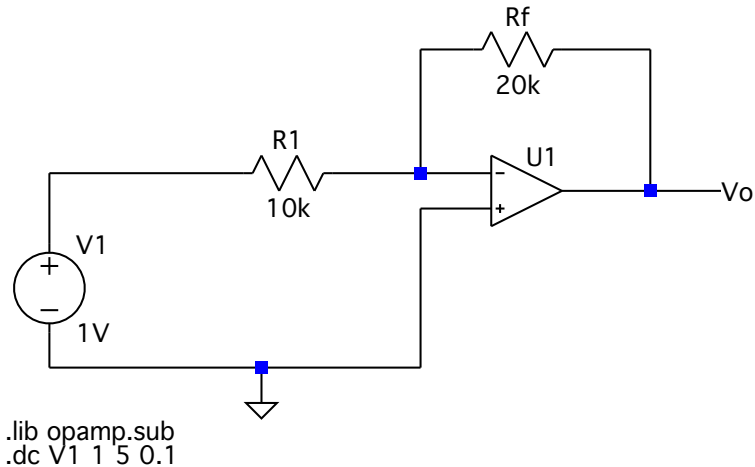

Figure 1 Simple Op Amp Simulation in LTSPICE
- 5) To illustrate the gain characteristic, we’ll sweep the voltage input. This, too, is a new SPICE directive. Add the SPICE directive “.dc V1 1 5 0.1” to your circuit. This will sweep the value of voltage source V1 from 1 volt to 5 volts in steps of 0.1 volts. Your LTSPICE circuit should look like Figure 1.